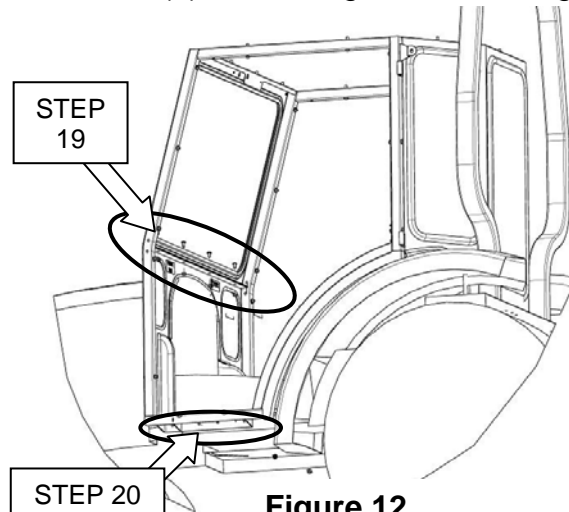

Figure 12
19. Secure front upper and front lower assemblies together using (4) 5/16" x 3/4" long button head bolts and (4) 5/16" flange nuts. See figure 12.
20. To get a proper seal around hood to front panel, apply pressure using C-clamps to secure side frame deck plates downward and inward onto operator's platform. Secure each side frame to tractor floor deck, align holes and secure using (3) 5/16" x 3/4" button head bolts and (3) 5/16" flange nuts. See figures 12 & 14.